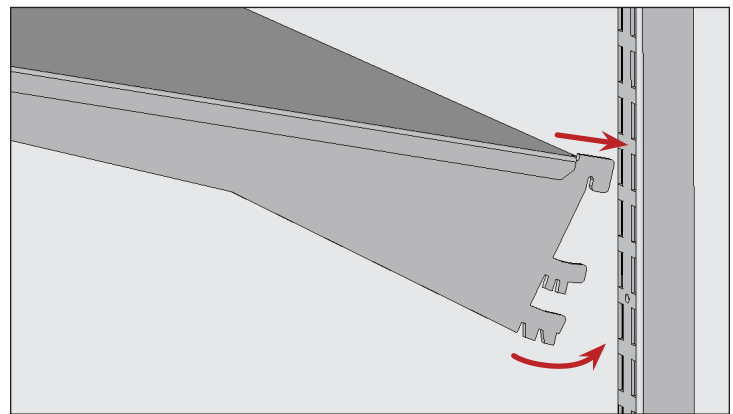

Fig. 3. Cantilever shelf into the shelf standard.
3. Slide the shelf angle adjustment tabs into the shelf standard slots. Position the notches in the angle adjustment tabs to support the shelf at the desired angle. See fig. 3.